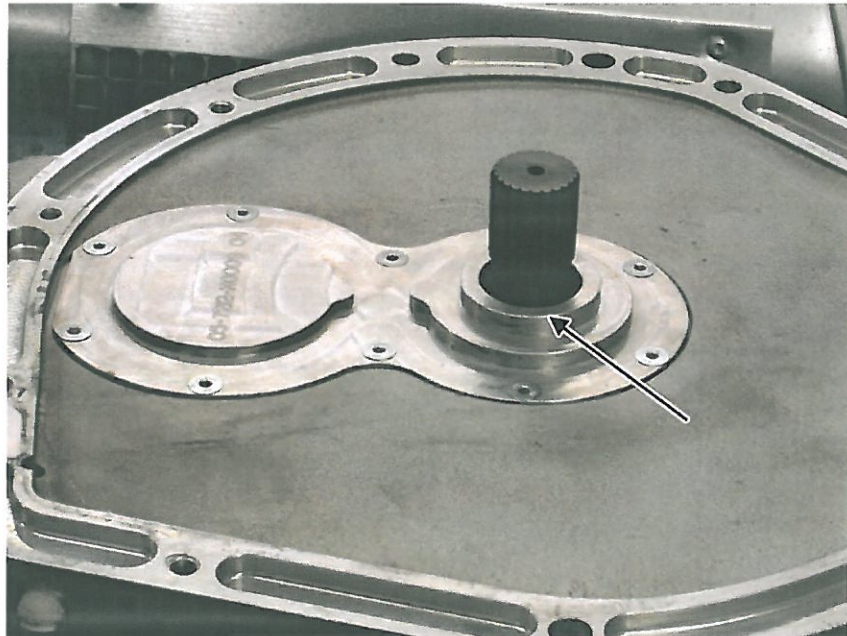

Fig. 1 Shoulder on the rear gearbox cover
**If the rear gearbox cover has the part number 05-7212-K000904 and the shoulder shown in Fig. 1, you must rework the rear gearbox cover in accordance to work steps which follow. Otherwise, proceed to step 19.**